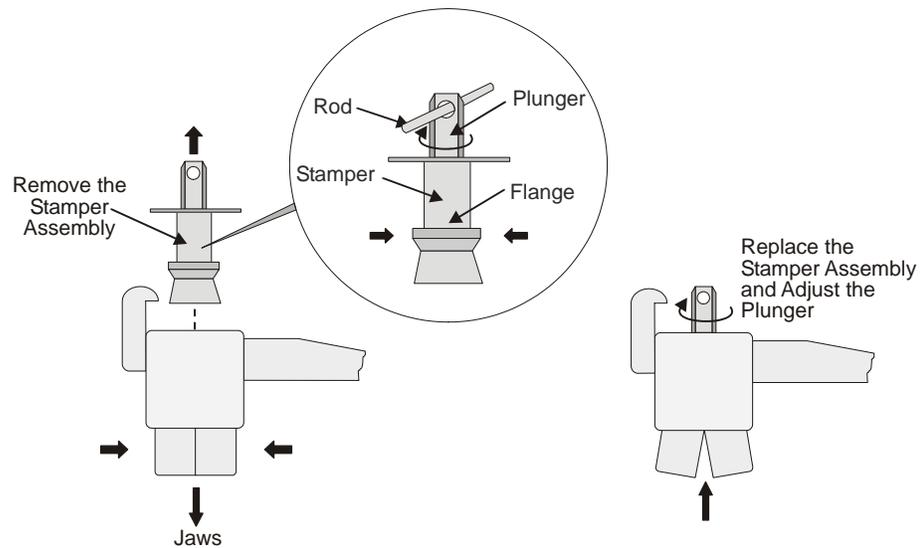

Figure 114 Stamper Assembly
6. Clamp the flange of the stamper in a vice at the position shown in *Figure 114*.